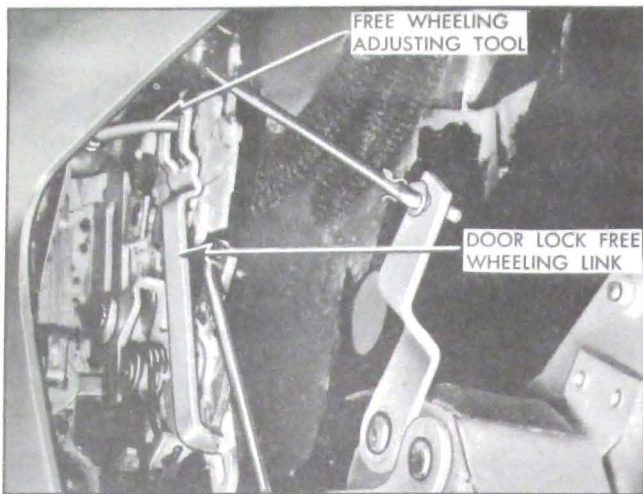

Figure 13-67—Free Wheeling Adjustment
2. Insert adjusting tool through screw hole, Figure 13-67.
3. While observing through the window opening, with the aid of a light, engage hooked end of adjusting tool in cut-out of free-wheeling link, as shown in Figure 13-67. Pull link REARWARD to set lock "OUT" of free-wheeling and push link FORWARD to set lock "IN" free-wheeling.